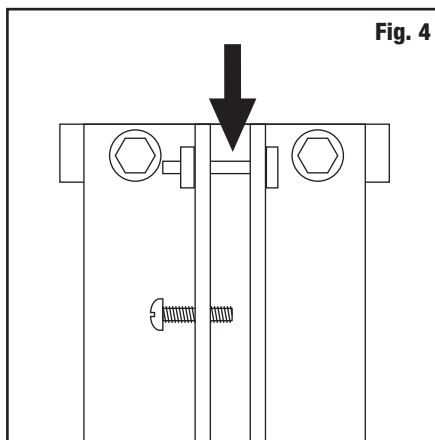
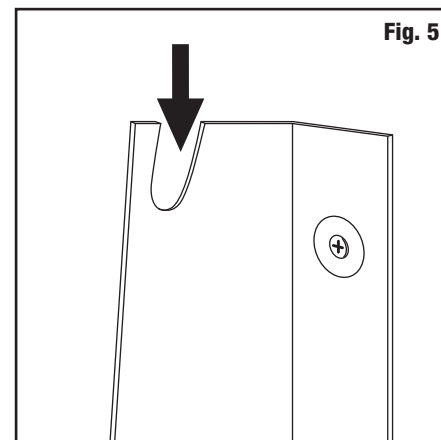
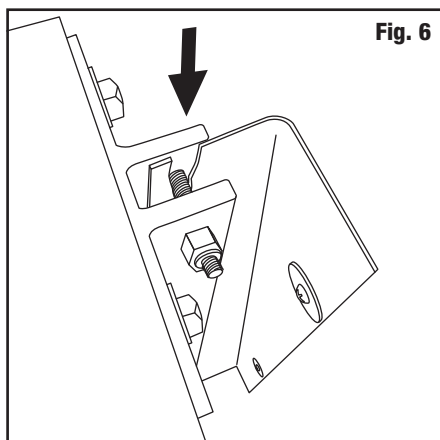

Fig. 4
Fig. 5
Fig. 6
1. Carefully fit top pin in Cutting Bar (Fig. 4) into slot in Top Bracket (Fig. 5) and align bracket edges along bar assembly edge (Fig. 6).